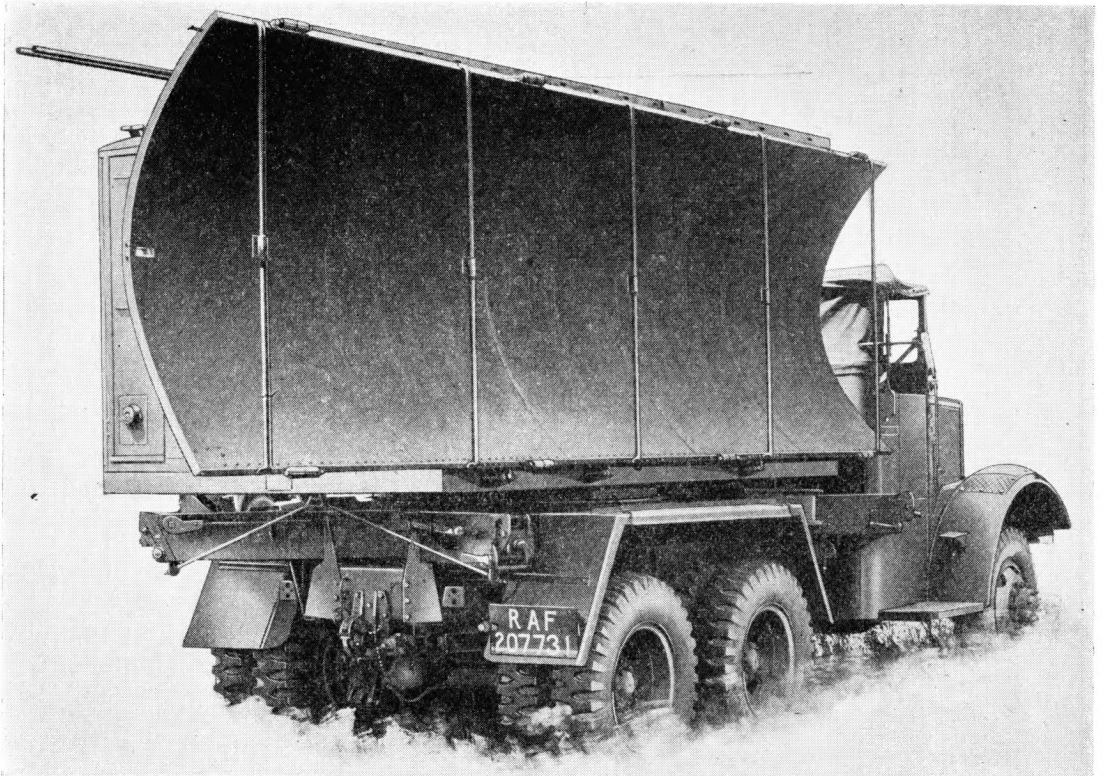
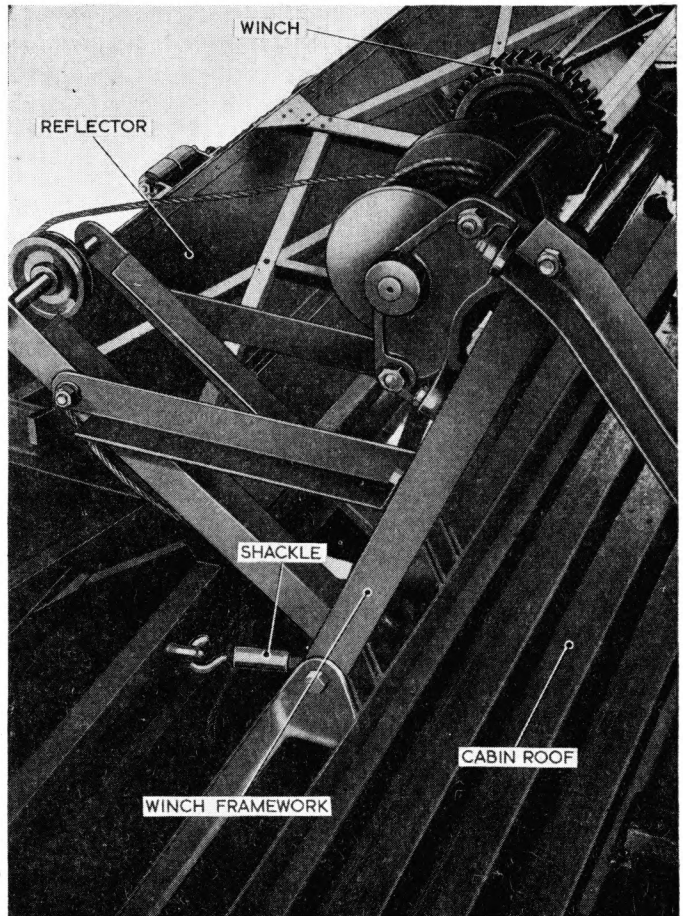
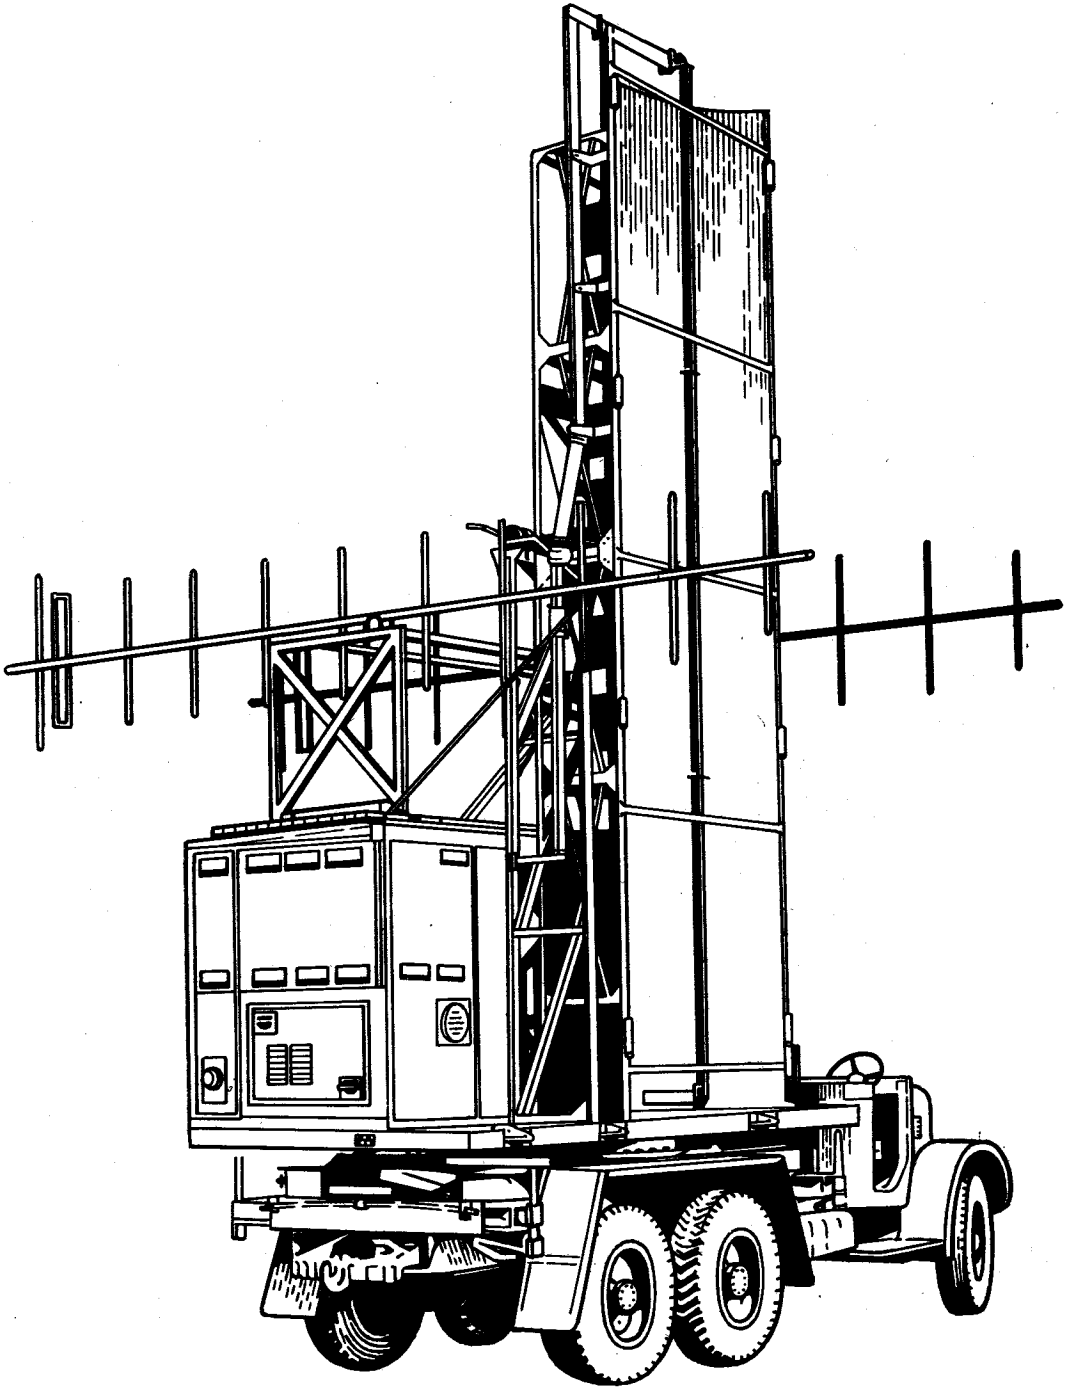
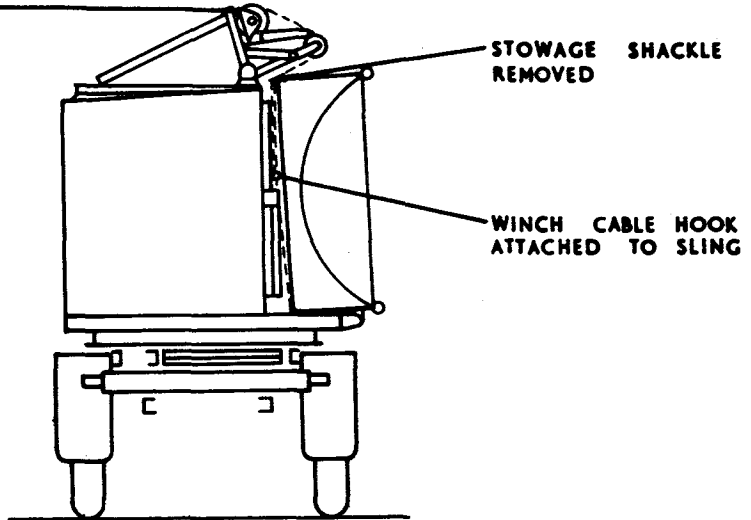

Fig. 24. R.V.461C in transit condition
Fig. 26. R.V.461C : assembly of winch before lowering reflector
Fig. 25. R.V.461C in operational condition
Fig. 27. R.V.461C : tackle in position for lowering paraboloid
31. Fig. 24 shows the vehicle in transit condition and fig. 25 shows it when operational with the aerial erected. The installation involves :—
- (1) Remove the ladder and the two wooden stays from their transit positions on top of the reflector.
- (2) Remove the shackle securing the reflector (*fig. 26*) ; the reflector will not fall.
- (3) Remove the IFF aerial rods and disconnect the IFF feeders from their dummy transit sockets on top of the container.
- (4) Lift up the two hinged sections of the IFF aerial supporting framework and fit one of the wooden stays between these sections at the back of the container remote from the reflector (*fig. 25*).
- (5) Unstrap the triangular section of the winch framework from the roof. Turn it over and bolt in position. The swinging legs of the frame fit into the
outer slots of the brackets (*fig. 26*) and the legs of the pulley section fit into the inner slots. Fig. 27 shows the erection complete to this stage.
Lowering the reflector to the ground (*fig. 26 and 28*)
- (1) Pass the winch cable over the pulley and attach the hook to the sling at the back of the reflector (*fig. 26*).
- (2) Keeping the winch cable fairly taut, push the reflector forward on its hinges until it is at the point of balance.
- (3) Take the weight of the reflector with the winch and lower the reflector on to